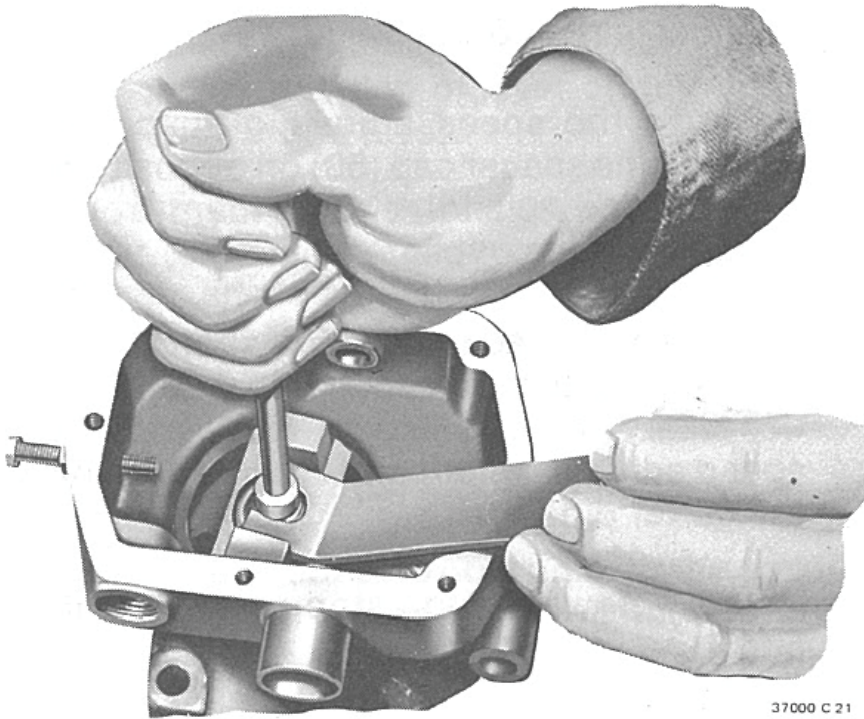
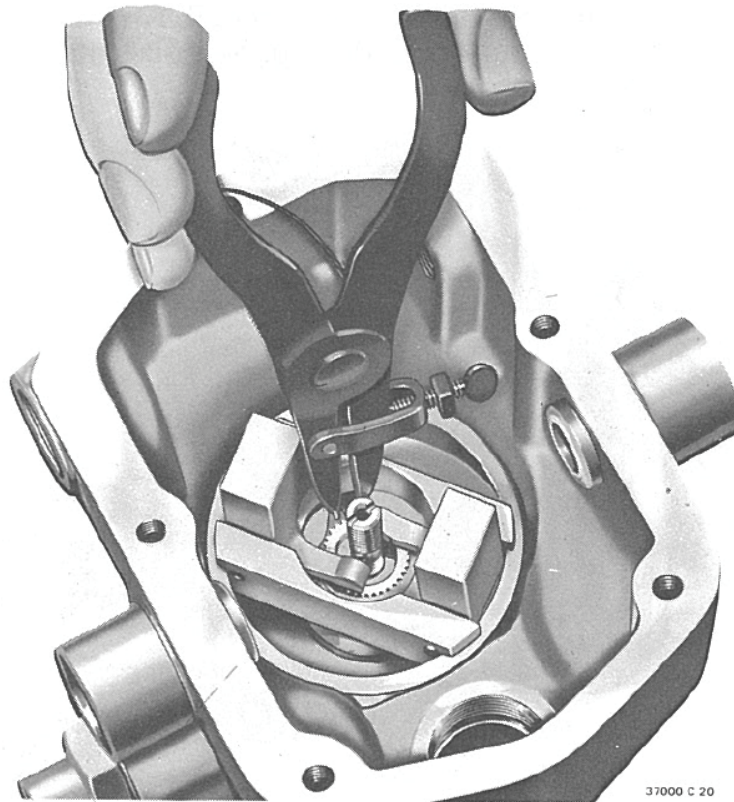

Figure 3-5. Pilot Valve Disassembly
Figure 3-6. Removal of Ballhead
13. Hold spring seat (40) with the short end of tool 370109 and use a 5/16" socket wrench to remove the pilot valve plunger lock nut (41). See Figure 3-5.
14. Place a small screwdriver in the slot in the top of pilot valve plunger (31) and screw the pilot valve plunger down and out of spring seat (40).
15. Lift out spring seat (40) and thrust bearing assembly (39). The thrust bearing consists of an upper and lower race and a bearing assembly.
16. Remove snap ring (37) with snap ring pliers and lift out ballhead parts (34, 35, 36, 37, and 38). See Figure 3-6.